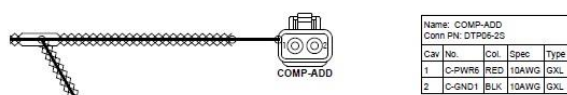

Figure 167
1. Check for 12 volts and Ground at the air compressor connector. Figure 167